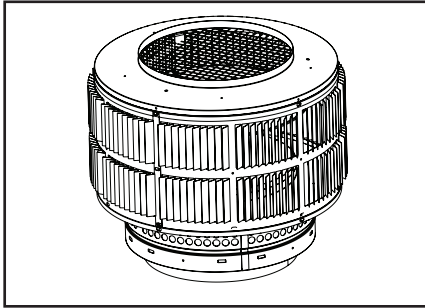

Figure 2
2. Place the TR-TV Top Dish Assembly on the cap and replace the five screws removed in Step 1. See Figure 2.